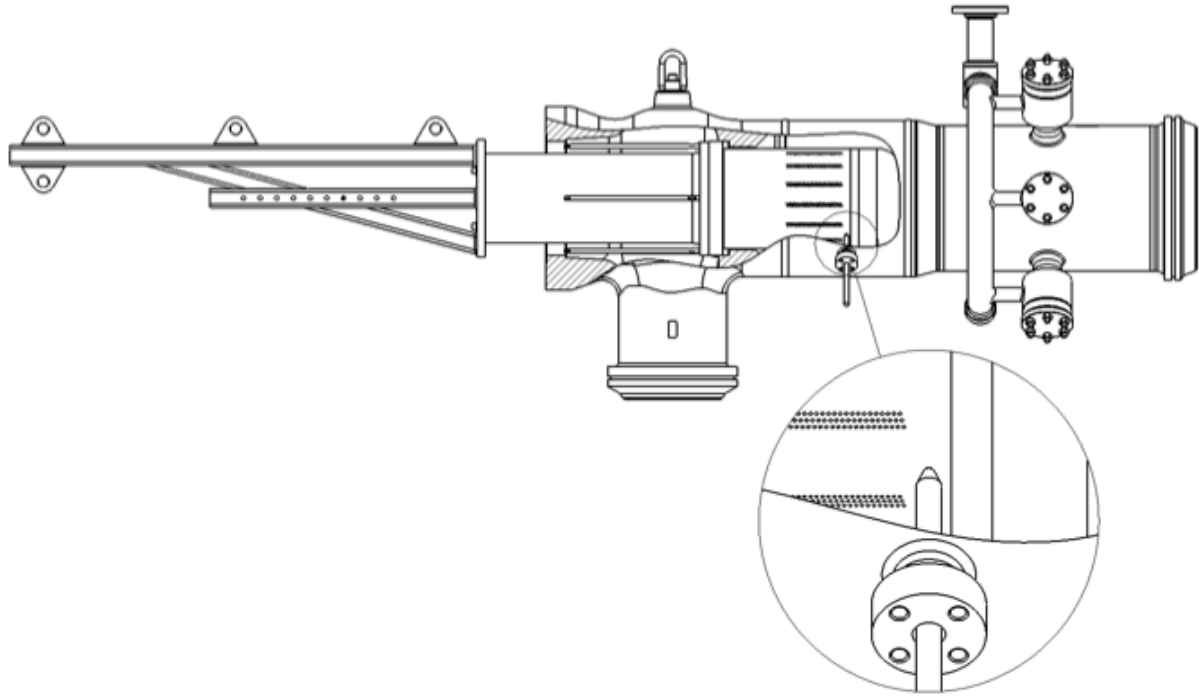

Figure 7 - Seat ring/seat ring diffuser removal
2. Thread the diffuser support rods into the jacket points until contact is made. Apply 1 full turn after contact to support the diffuser (see figure 7).